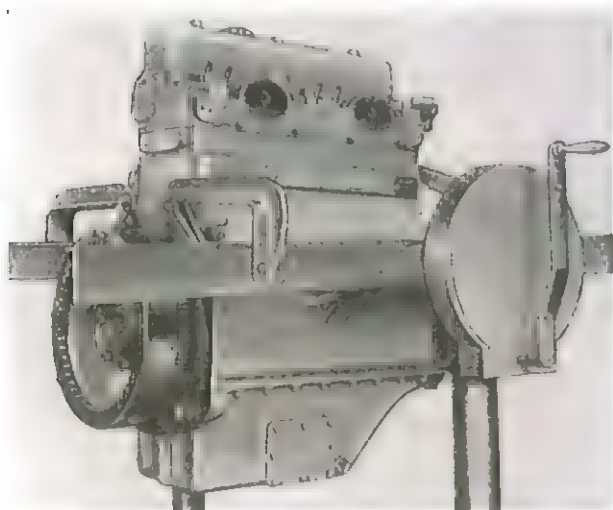

Fig. 58. - Right-side view of engine on rotary stand ARR 2216 (Note the rear brackets position).
- Place the engine on rotary stand **ARR 2216** (Fig. 58 and 59) fastening it rigidly with brackets **ARR 413004/A/B/C**.